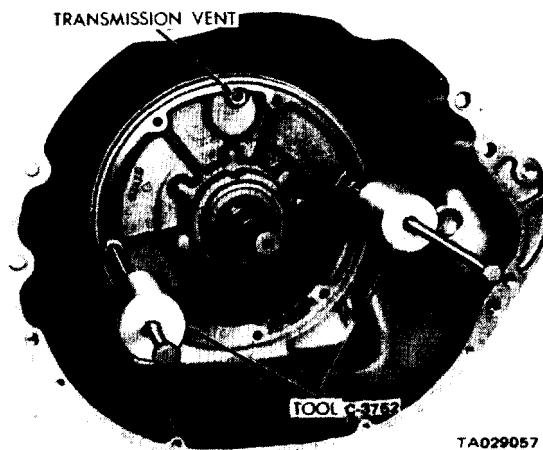

Figure 18-6. Removing Pump and Reaction Shaft Support Assembly.
(1) Tighten the front band adjusting screw until the band is tight on the front clutch retainer. This prevents the clutch retainer from coming out with the pump, which might cause unnecessary damage to the clutches.
(2) Remove the oil pump housing retaining bolts.
(3) Using puller set C-3752, remove the pump housing flange as shown in figure 18-6.